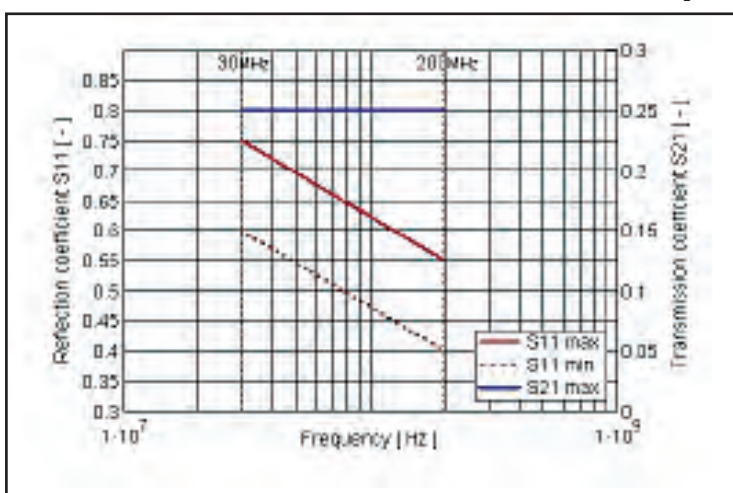

Figure 1: Limit ranges of the CMAD scattering coefficients.
According to the document [2] reflection coefficient S11 of the CMAD must be within the following limit range (red lines in Fig. 1):
- upper limit 0,75 at 30MHz and 0,55 at 200MHz, decreasing linearly with the logarithm of the frequency (continuous line in Fig. 1),
- lower limit 0,6 at 30MHz and 0,4 at 200MHz, decreasing linearly with the logarithm of the frequency (dotted line in Fig. 1).
Transmission coefficient S21 must be less than 0,25 in the frequency range from 30MHz to 200MHz (blue line in Fig.1). These coefficients are referenced to the characteristic impedance ZC of the cylindrical wire with d diameter, placed in the height h over the metal reference. It can be expressed as follows